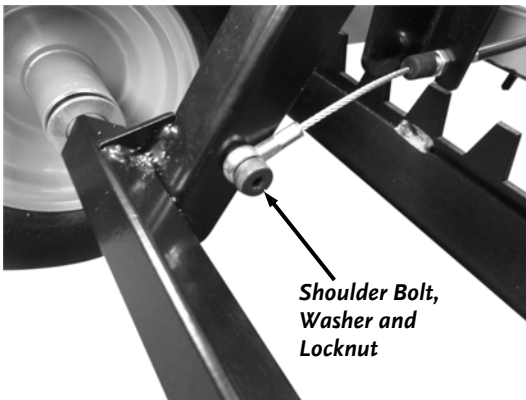

Figure 25
40. Insert the 10mm Shoulder Bolts through the Cable Eyelets and into the hole of the Axle Weldment (**Figure 25**).